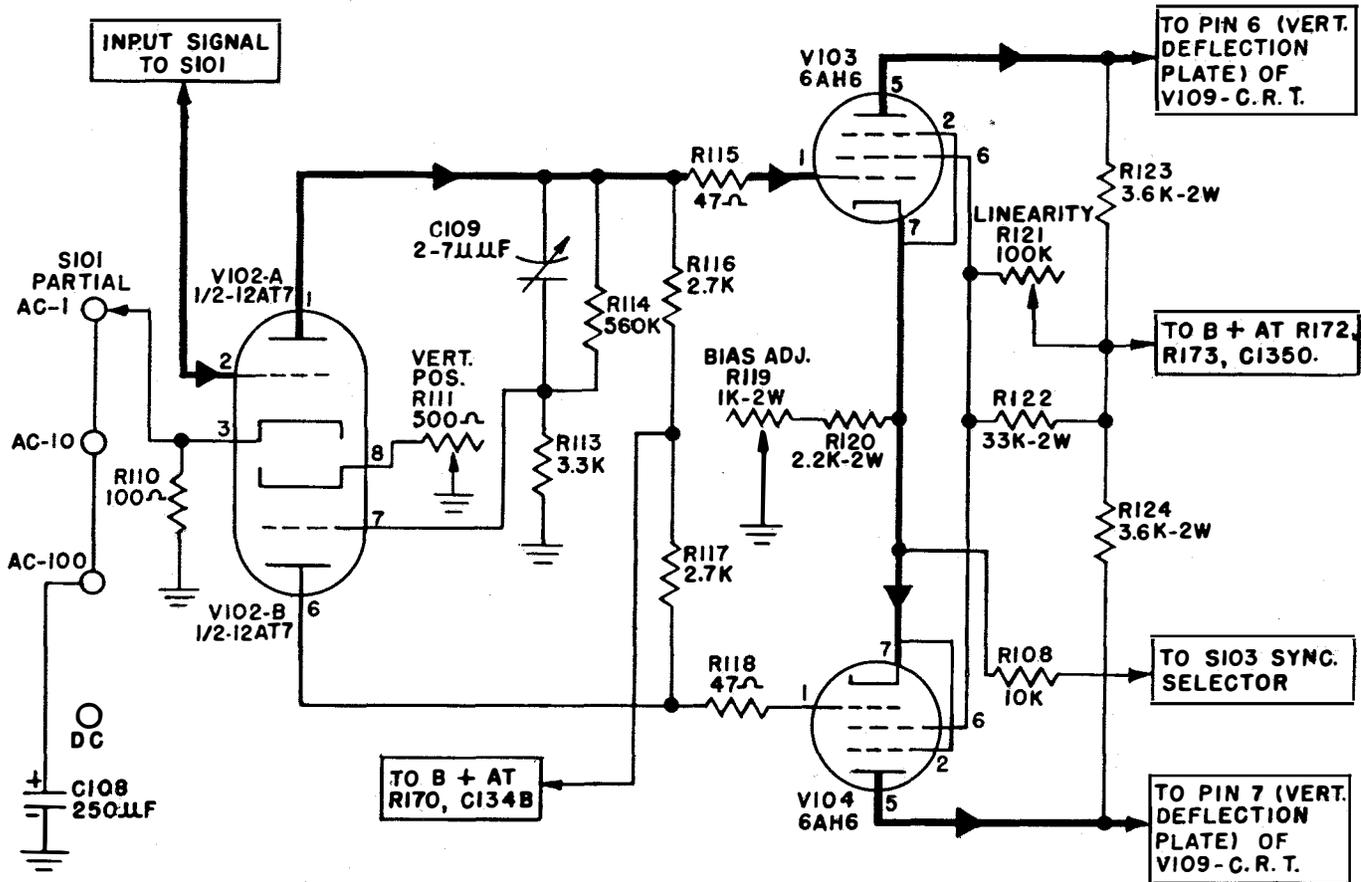

Figure 2-4. Vertical Amplifiers
(3) AMPLIFIERS. (See Figure 2-4)